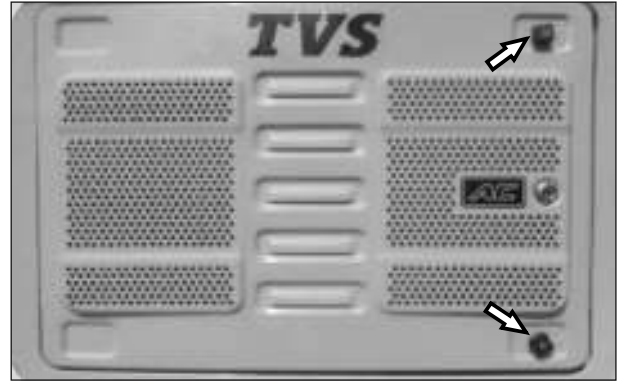

Fig. 5.93
- Loosen and remove the knobs top and bottom from tail door. Also, unlock the tail door using control key. Open the tail door. (Fig. 5.93)